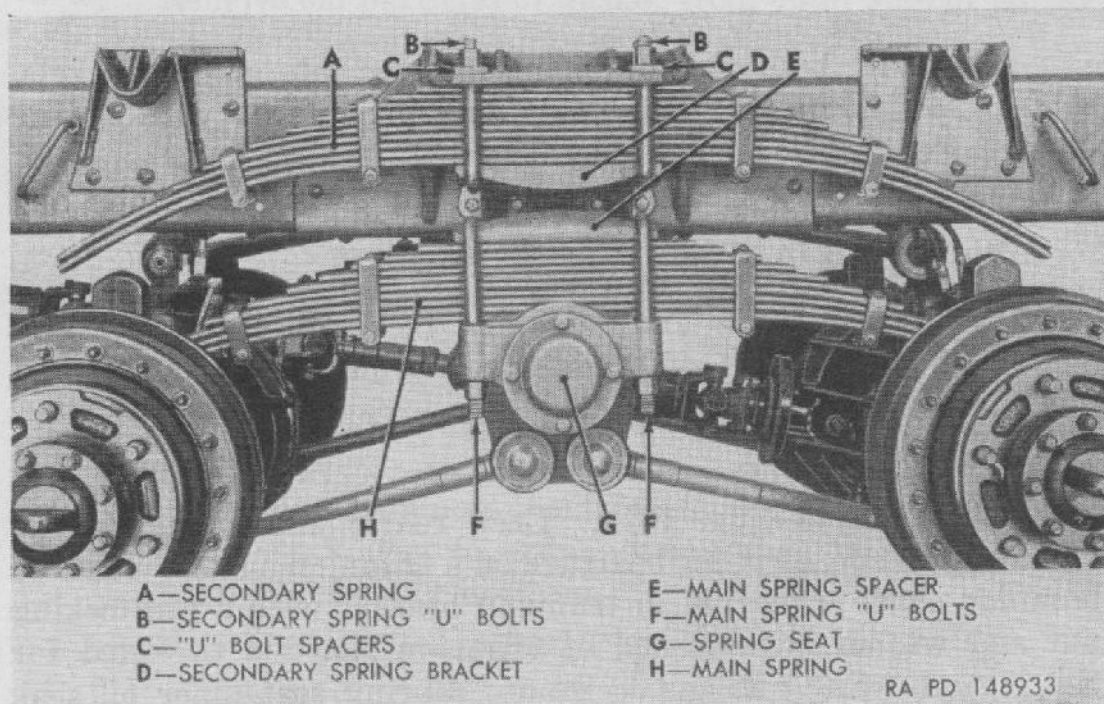
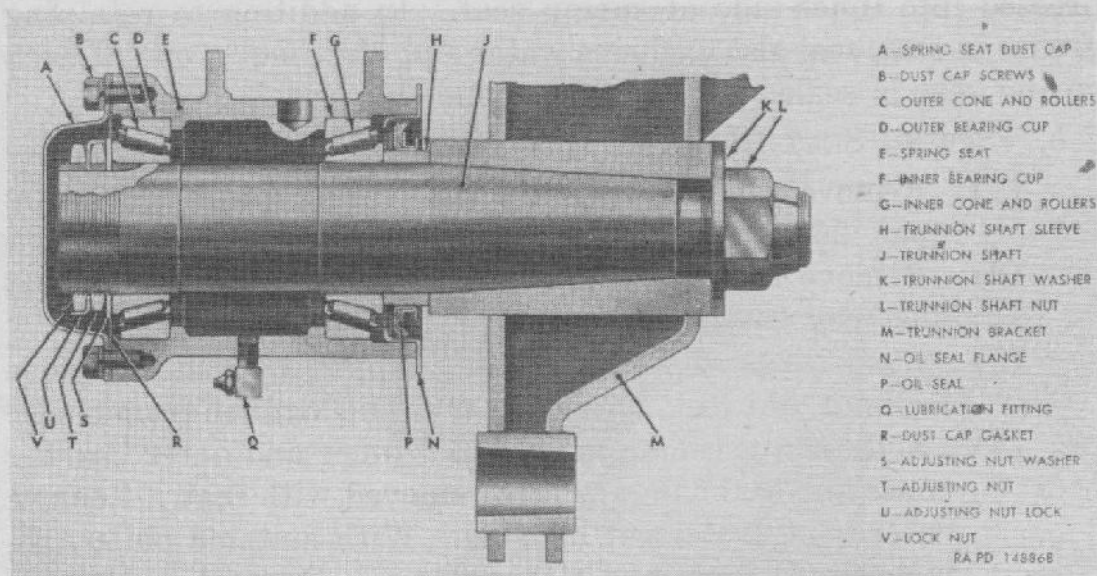

Figure 156. Left rear springs installed.
Figure 157. Sectional view of rear spring seat.
sembly on each side (fig. 156). Both spring assemblies are inverted semi-elliptic type with slipper-type ends. The main spring is mounted with "U" bolts on a spring seat which in turn is mounted on a trunnion shaft with tapered roller bearings (fig. 157). The secondary spring assembly is mounted rigidly to frame side rail on bracket and seat with "U" bolts. Slipper ends of main spring are inserted in axle housing brackets, while secondary spring ends contact top of brackets under heavy loaded conditions.
a. **SECONDARY SPRING REMOVAL** (fig. 156).
- (1) Jack-up frame enough to relieve tension on springs. Jack-up both rear axles to remove both wheels (par. 293a).
- (2) Remove nuts and spacers from "U" bolts which attach spring to seat and frame bracket. Remove "U" bolts.
- (3) While supporting spring, remove four bolts and nuts which attach secondary spring seat to frame bracket. Remove spring.
b. SECONDARY SPRING INSTALLATION (fig. 156).
- (1) Position spring seat under spring, engaging spring center bolt in locating hole in seat.
- (2) Position spring and seat at frame bracket. Hold spring in position by blocks placed between spring ends and axle brackets.
- (3) Install "U" bolts, spacers, and nuts. Push spring against locating ribs and parallel to frame. Tighten nuts to 375-400 pound-feet torque. Install four bolts and nuts which attach spring seat to frame and bracket. Tighten nuts to 33-43 pound-feet torque. Install wheels (par. 239*b*). Remove jack from under frame and axles. Recheck tightness of "U" bolt nuts.
a. MAIN SPRING REMOVAL (fig. 156).
- (1) Jack up frame to relieve tension from springs. Jack up both rear axles to remove wheels on side to be serviced.
- (2) Remove "U" bolt nuts. Remove "U" bolts and spacer.
- (3) Move spring forward or rearward into guide bracket until one end disengages bracket. Move free end toward brake drum and slide opposite end out of guide.
b. MAIN SPRING INSTALLATION. (fig. 156).
- (1) Insert one end of spring as far as possible through guide bracket on either axle. Move opposite end of spring toward guide bracket; then slide spring to engage bracket.
- (2) With both ends of spring inserted into guide brackets, position spring assembly on spring seat with spring center bolt engaging locating hole in seat.
- (3) Position spacer on spring, then install "U" bolts and nuts. Tighten nuts to 375-400 pound-feet torque.
- (4) Install wheels (par 239*b*).
- (5) Lower frame and axles and recheck tightness of "U" bolt nuts (375-400 pound-feet torque).
a. DESCRIPTION (fig. 157). Each rear main spring seat is mounted on tapered roller bearings on a trunnion shaft. Tapered trunnion shaft is secured in trunnion bracket with a self-locking nut and washer. Outer end of trunnion shaft is threaded for bearing adjusting nut and lock nut. Spring seat inner oil seal, installed on a shaft sleeve, wipes on inside of seal flange which is
b. SPRING SEAT REMOVAL (figs. 156 and 157).
- (1) Remove secondary spring (par 259*a*) and main spring (par. 260*a*).
- (2) Remove four bolts and lock washers which attach seat dust cap to seat.
- (3) Bend tangs of nut lock away from lock nut. Remove lock nut, nut lock, adjusting nut, and washer from shaft.
- (4) Slide seat assembly off shaft. Inner and outer bearing cones and seal flange will be removed with seat. Remove outer cone from seat housing. With suitable puller, remove inner cone and sleeve flange. Oil seal and sleeve will remain on shaft.
- (5) Pull seal from sleeve if necessary to replace (*c* (4) below).
- (6) Remove bearing cups if necessary (*c* (3) below), with suitable puller or soft drift.
- (1) Immerse bearing cone and roller in dry-cleaning solvent or volatile-mineral-spirits paint thinner (refer to paragraph 66*b* for general precautions). Clean bearings with a stiff brush to remove old lubricant. Dry bearings thoroughly.
- (2) Clean all old lubricant out of spring seat and wipe dry. Remove old particles of gasket from outer side of spring seat. Wipe oil seal clean with a cloth dampened in dry-cleaning solvent or volatile-mineral-spirits paint thinner. Wash all mounting parts in cleaning fluid.
- (3) Inspect bearing rollers for wear or chipped edges. Examine bearing cups for pits and cracks. Polished lines will appear in cups indicating resting position of rollers. These lines are not harmful. Bearing cups should not be replaced unless cracked or pitted.